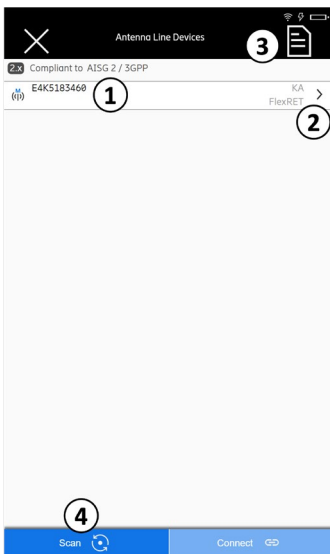

Fig. 71: Devices: Connected to a TMA
1. Tap ① in Fig. 71 to open the list with the subunits.